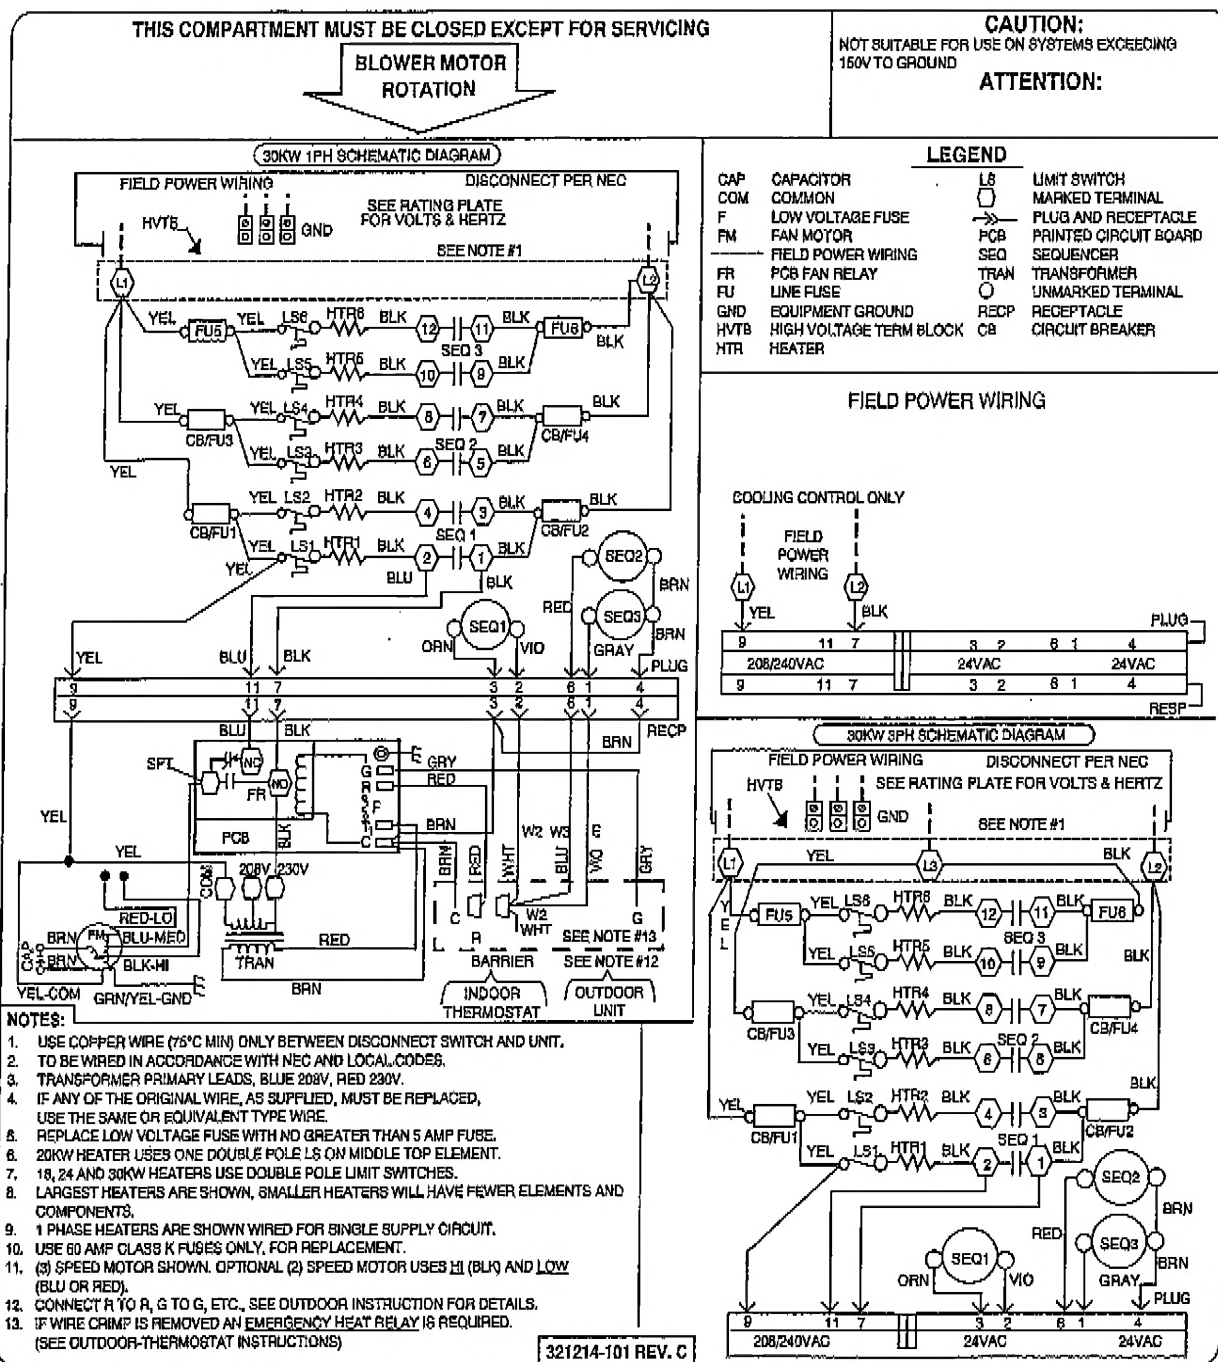

Fig. 4—Wiring Diagram
Use wiring schematic shown in Fig. 4 as a guide in troubleshooting PCB unless otherwise noted.
1. Check wiring of sequencers as shown in Fig. 4. Be sure transformer is not shorting out because thermostat wires are miswired.
2. Check wiring of sequencers as shown in Fig. 4. Be sure low-voltage and high-voltage wiring is connected to proper sequencers.